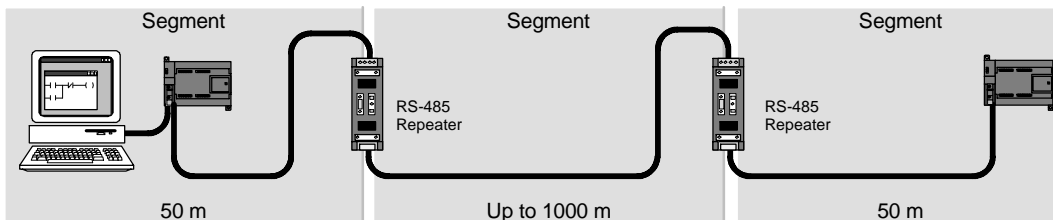

Figure 7-21 Sample Network with Repeaters
- ❑ *To increase the length of a network:* Adding a repeater to your network allows you to extend the network another 50 m. If you connect two repeaters with no other nodes in between (as shown in Figure 7-21), you can extend the network to the maximum cable length for the baud rate. You can use up to 9 repeaters in series on a network, but the total length of the network must not exceed 9600 m.